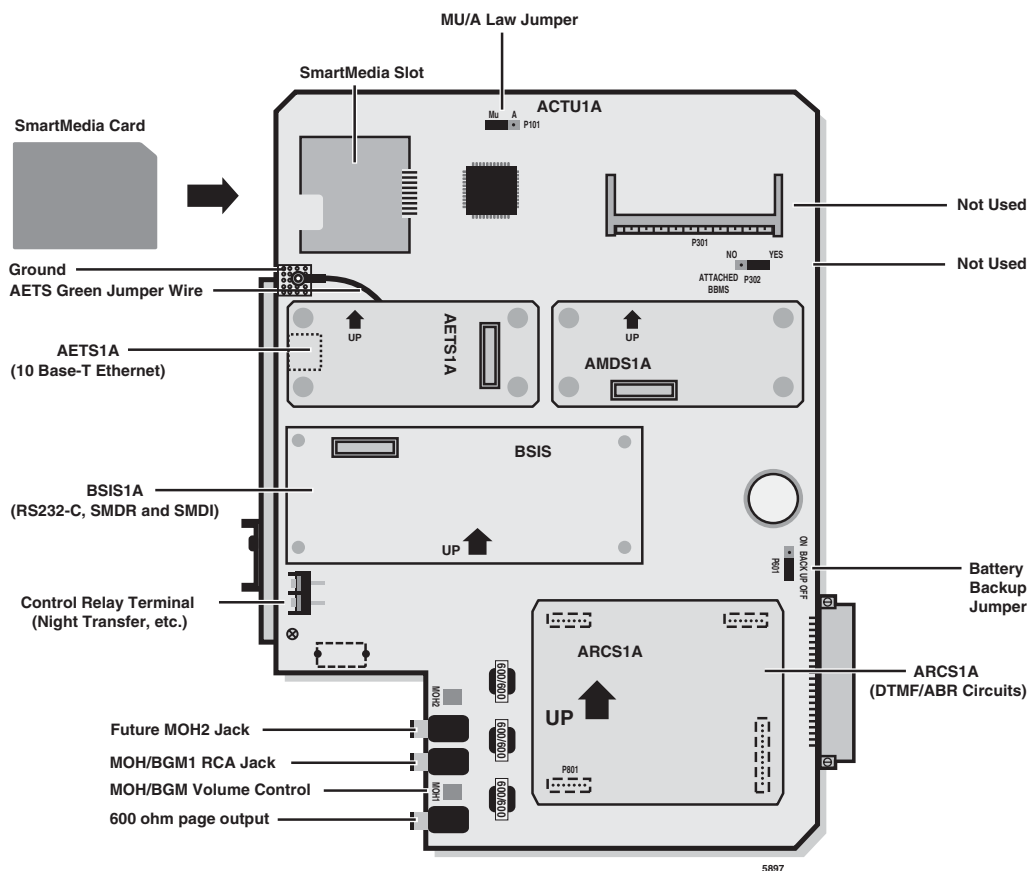

Figure 3-18 ACTU PCB (CTX100 Processor)
Refer to Figure 3-18 and perform the following steps on the ACTU2A.
Refer to Figure 3-18 with the following steps.
**Note** If you are installing the AETS option PCB, before mounting the AETS, dress its green jumper wire under and behind the Ethernet port and out the top as shown in Figure 3-18. Remove the screw just above the AETS, place the jumper wire ring over the hole and replace the screw to hold the jumper wire ring in place.